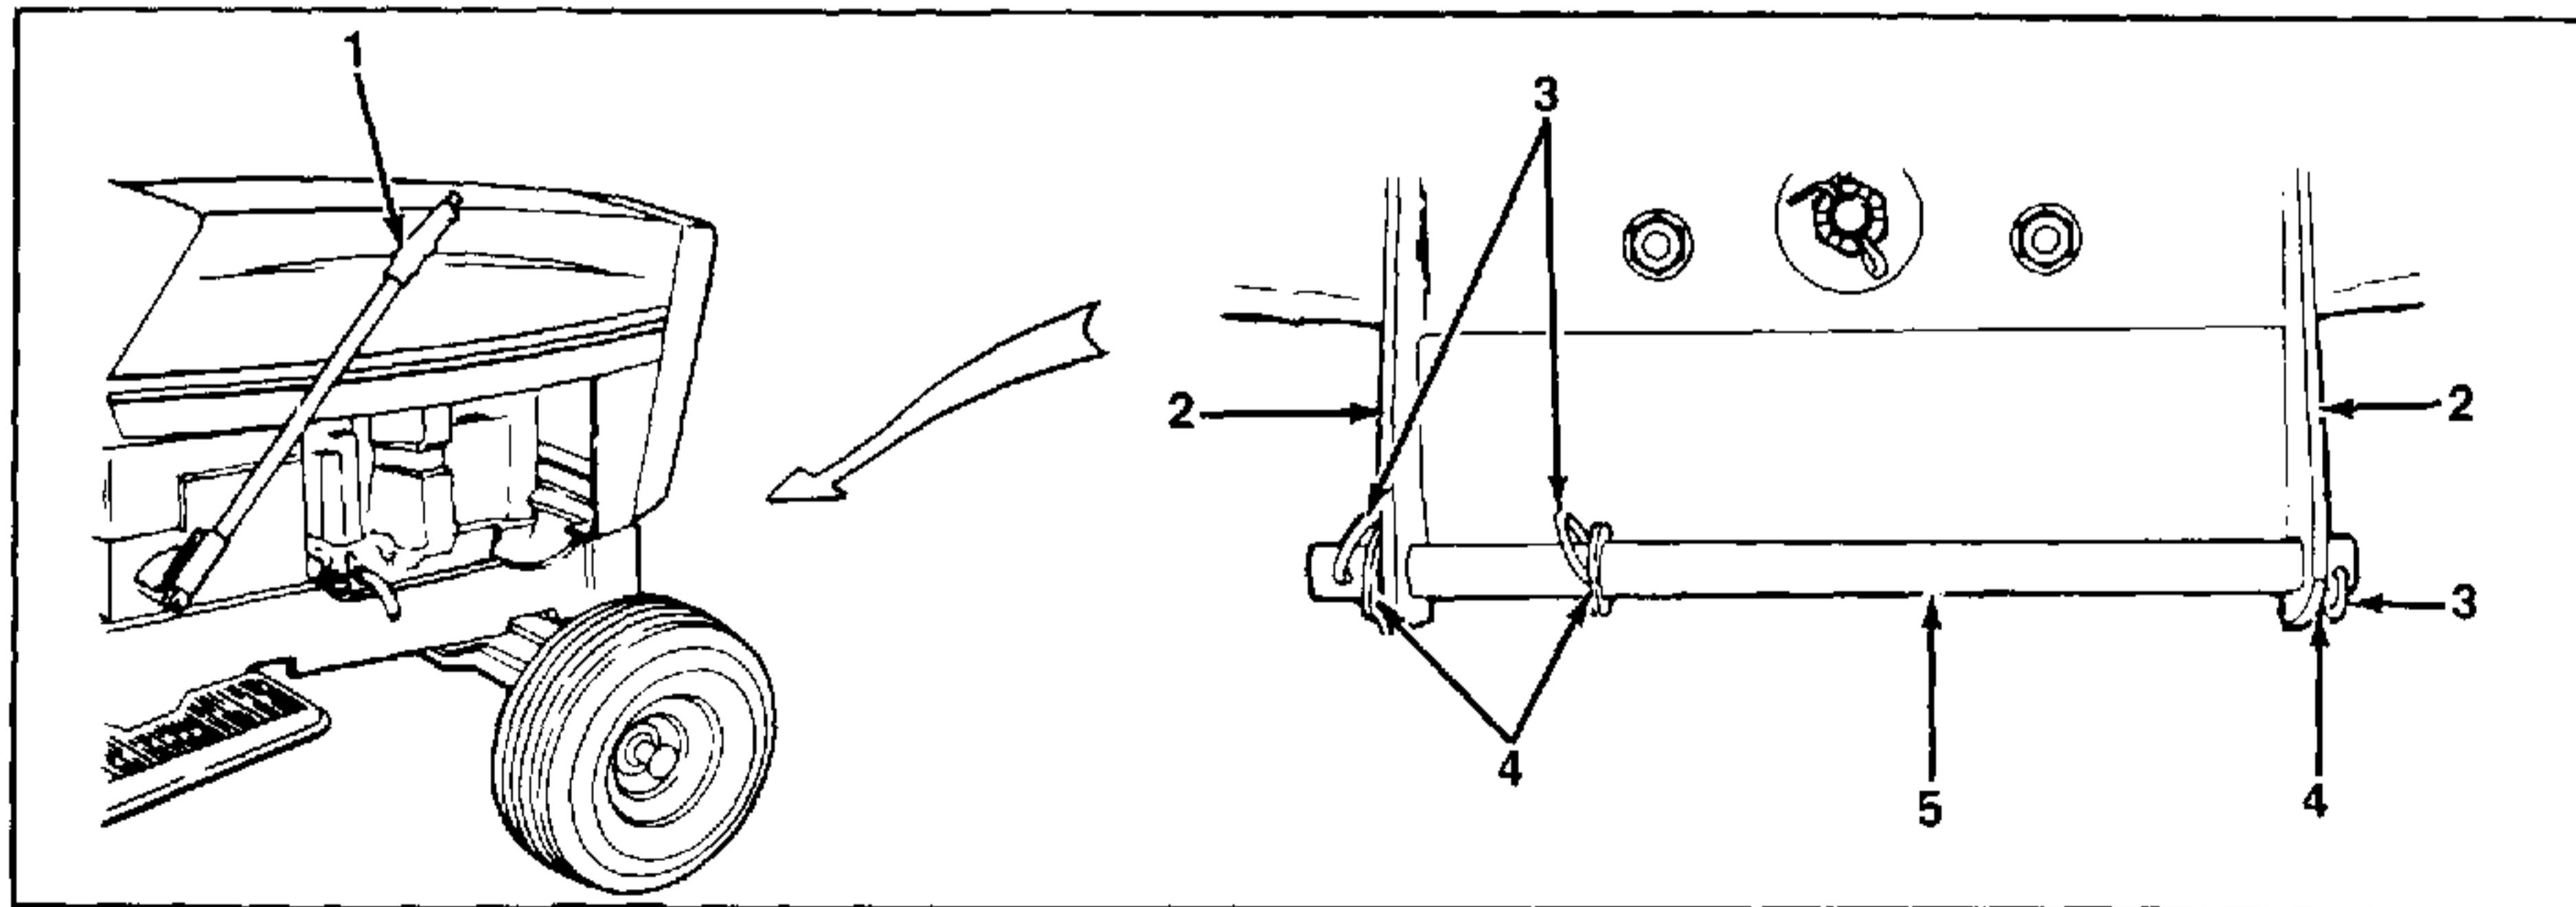

FIGURE 3.
1. Refer to figure 3. Using the steering wheel, turn the left front wheel to the left as far as possible. Remove the hairpin cotters from the right end and from the center of the tractor hanger rod. Withdraw the rod from the front hanger bracket. Collect the washers.